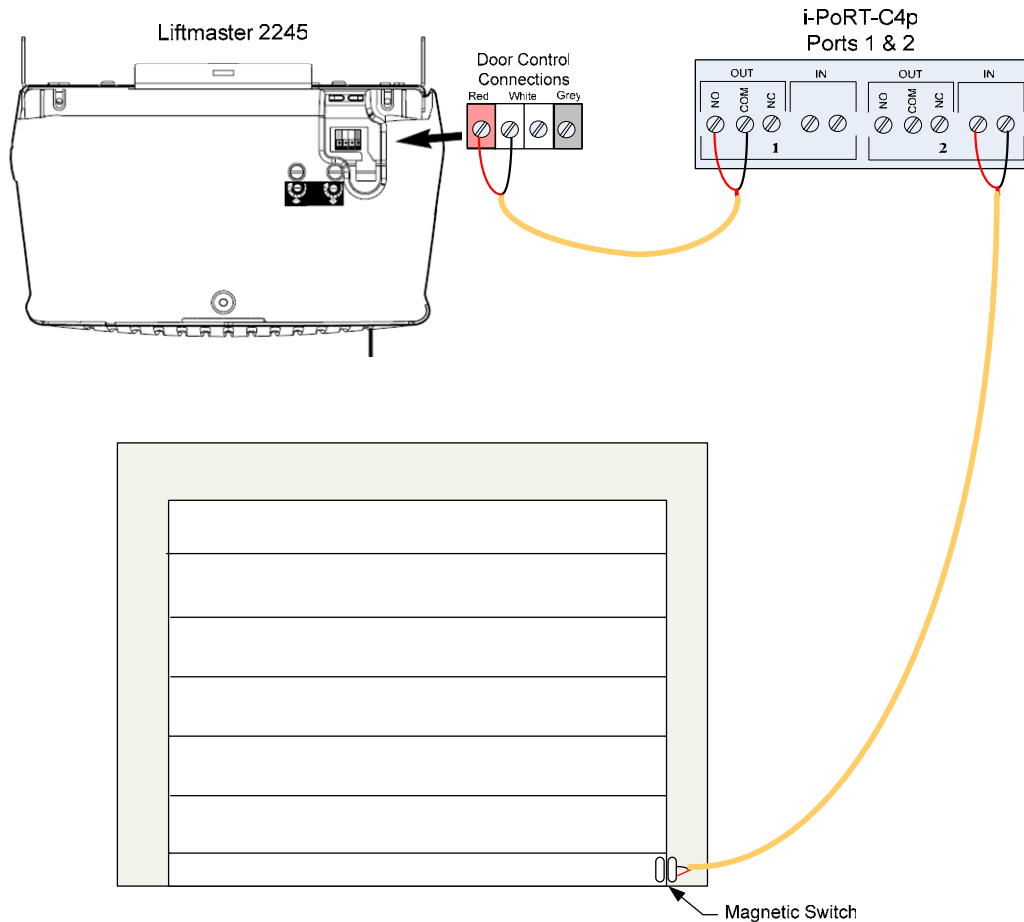

Fig. 1 – Wiring Diagram
Step 1: Mount the magnetic switch (Fig. 1)
Step 2: Wire the i-PoRT-C4p (Fig. 1)